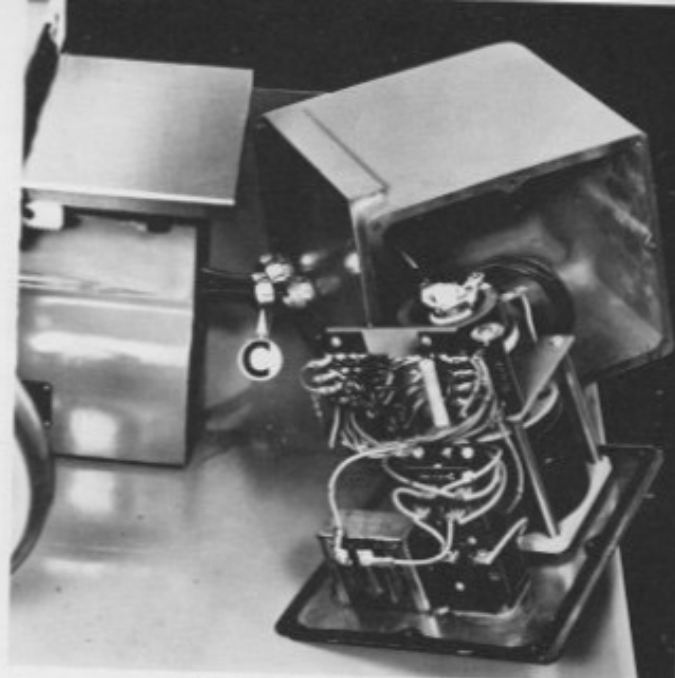

Figure 45 — Control Panel Removal
4. Pull control box away from end of bed and remove nut "C", Figure 45, from cable grip.